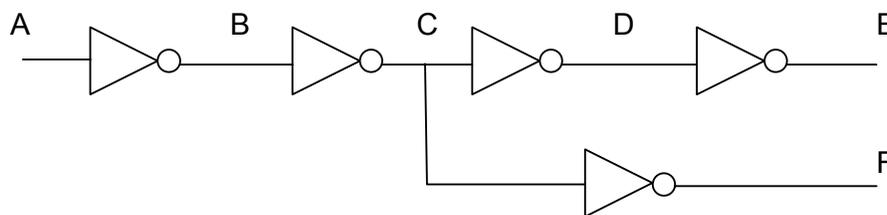

FIGURE 9.1 – CASCADE INVERTERS
- 9.2 A network of cascade inverters is shown in FIGURE 9.1. If a HIGH (logic 1) is applied to point A, determine the logic levels at the points labelled B through to F.